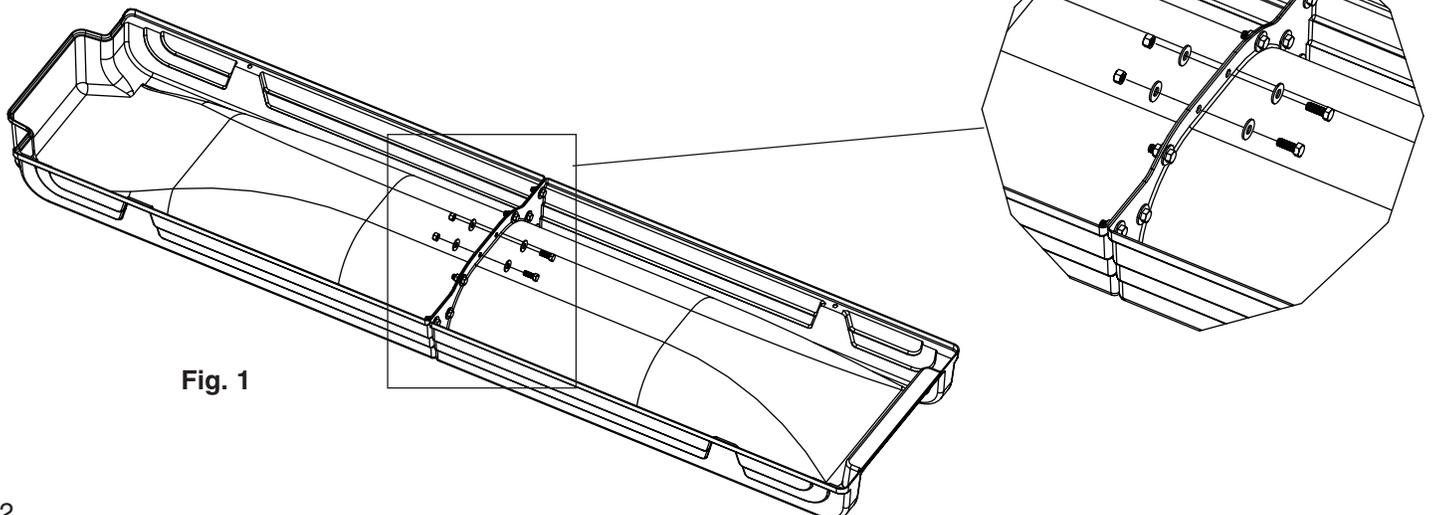

Fig. 1
2. Secure the two pieces together with ten 3/8" hex bolts, 3/8" washers and 3/8" lock nuts as shown. (Fig. 1)